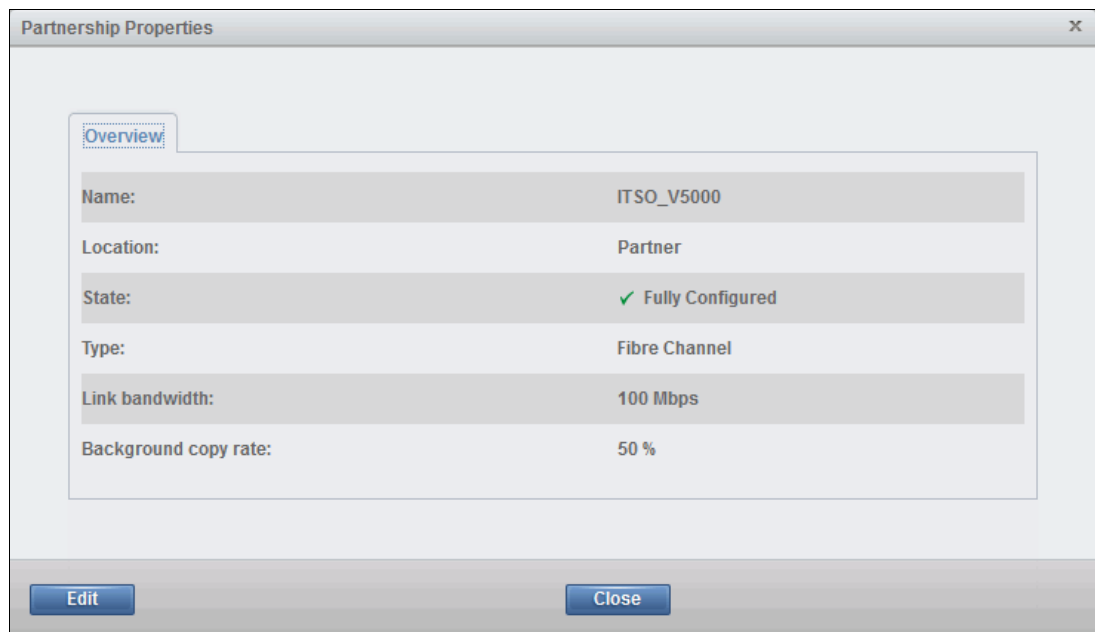

Figure 3-88 Partnership Properties
3. From the Actions menu, access the Partnership Properties pane shown in Figure 3-88.